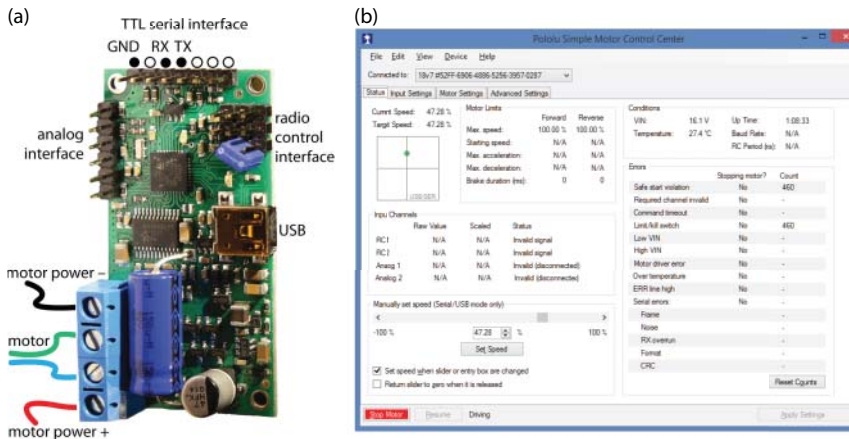

Figure 10-5: (a) The Pololu Simple Motor Controller, and (b) the associated motor configuration tool
The Pololu *Simple Motor Controller* family (\$30–\$55), illustrated in Figure 10-5(a), supports powerful brushed DC motors with continuous currents of up to 23 A and maximum voltages of 34 V. It supports USB, TTL serial, analog, and hobby radio-control (RC) PWM interfaces. The controller uses 3.3 V logic levels, but it is also 5 V tolerant.
Despite its name, this is an advanced controller that can be configured with settings such as maximum acceleration/deceleration, adjustable starting speed, electronic braking, over-temperature threshold/response, etc., which makes it a good choice for larger-scale robotic applications. The controller can be configured using a Windows GUI application, as illustrated in Figure 10-5(b), or by using a Linux command-line user interface. The Windows configuration tool can also be used to monitor motor temperature and voltage conditions and control the speed settings, braking, PWM, communications settings, and so on over USB, even while the motor is connected to the RPi with a TTL serial interface.
The Simple Motor Controller can be configured to be in a serial ASCII mode, whereupon it can be controlled using a UART device from the RPi with minicom. For example, with ASCII mode enabled and a fixed baud rate of 115,200 (8N1) set in the Input Settings tab (see Figure 10-5(b)), the RPi can connect directly to the motor controller and issue text-based commands to control the motor, such as V (version), F (forward), B (brake), R (reverse), GO (exit safe-start mode), X (stop), etc. See the comprehensive manual for the full list of commands (tiny.cc/erpi1003):